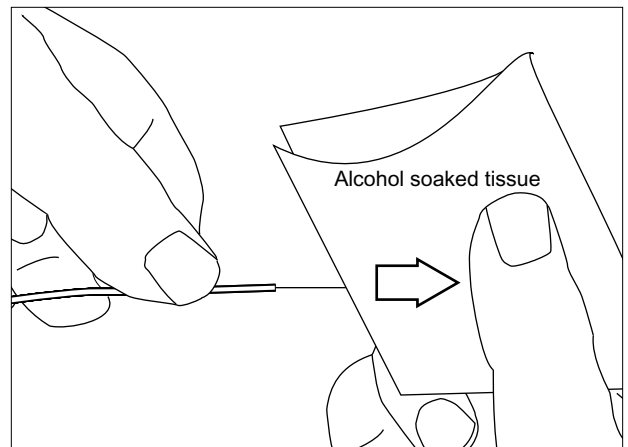

Figure 13 — Cleaning a fiber
Step 12: Using a lint-free tissue soaked with alcohol, clean the stripped fibers (Figure 13). Avoid handling the cleaned area of fiber.